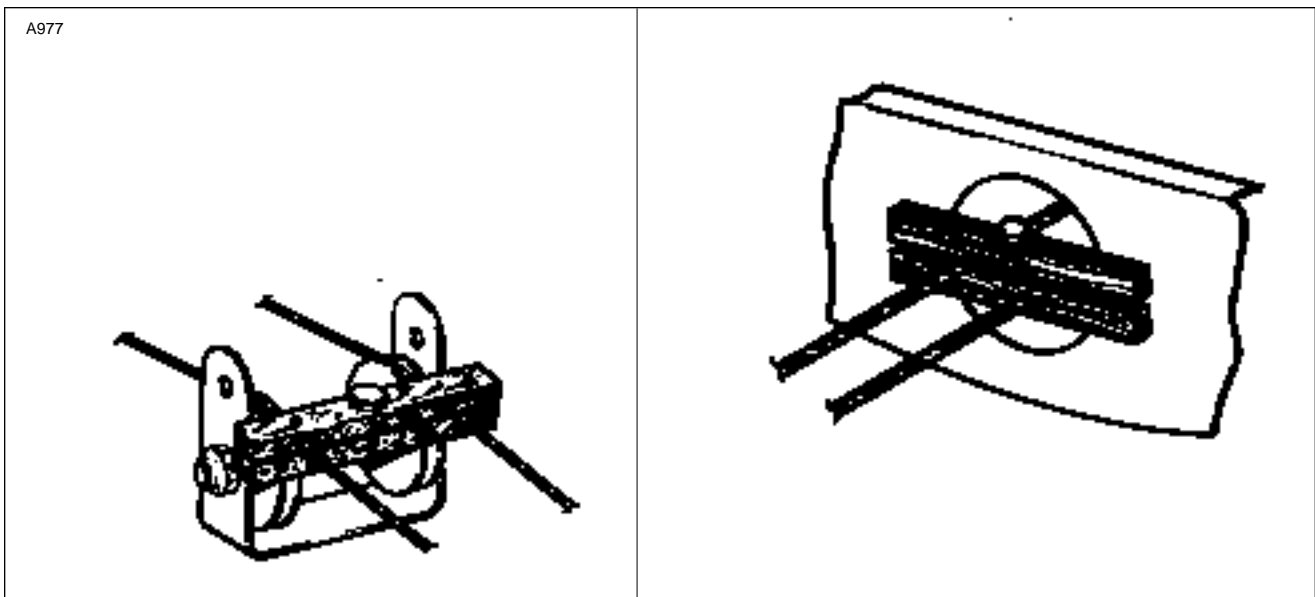

Figure 27-16. Method of Securing Trim Cables
2. If the forward trim mechanism is not being removed at this time, block the cables forward of the turnbuckles to prevent the cables from unwrapping at the forward trim drum. (Refer to Figure 27-16, Grid 2D8.)
INSTALLATION OF STABILATOR CONTROL CABLES. (Refer to Figure 27-16.)
- a. Move the control column to its neutral position and with cable clamps (Figure 27-16) or other suitable tool, block the column in this position.
2. If the aft trim cable is not to be removed, block the cables at the pulleys in the tail cone to prevent them from unwrapping from the trim drum. (Refer to Figure 27-16.)